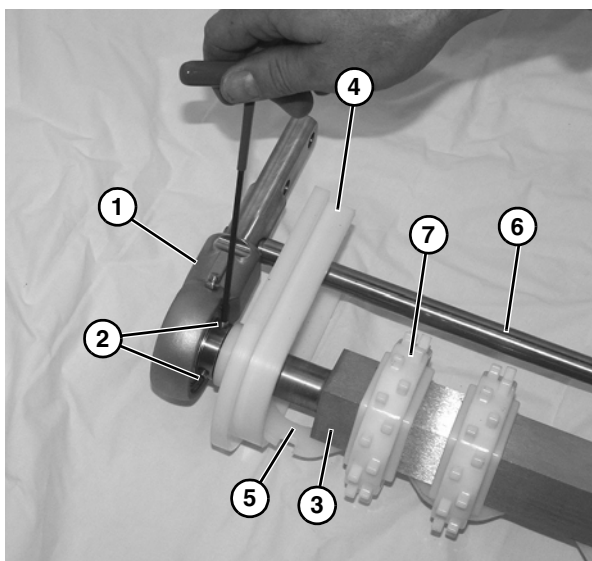

Figure 58
- Remove the bearing cover from bearing shaft assembly (**Figure 58, item 1**).
- Use a hex wrench to loosen two set screws (**Figure 58, item 2**) on the bearing shaft assembly (**Figure 58, item 1**).
- Slide the bearing shaft assembly off of the drive spindle (**Figure 58, item 3**). Slide bearing shaft assembly off the drive spindle on opposite side.
- Remove pinch guard (**Figure 58, item 4**) on each side.
- Remove sprocket alignment bar (**Figure 58, item 5**), and pinch guard shaft (**Figure 58, item 6**).
- Remove the sprockets (**Figure 58, item 7**).